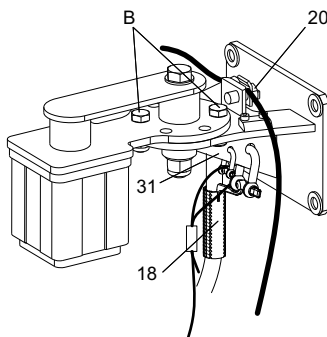

Fig. 10 Top fixation bracket with lifting and safety wires and cable sock
21. Mount the cable sock (18) to the top fixation bracket using the shackle, and pull the motor cable through it to the desired position. See fig. 10. The power supply cable must be slightly tightened.
22. Remove the lifting wire from the winch and fit it to the wire clamp (20, fig. 10) on the top fixation bracket.